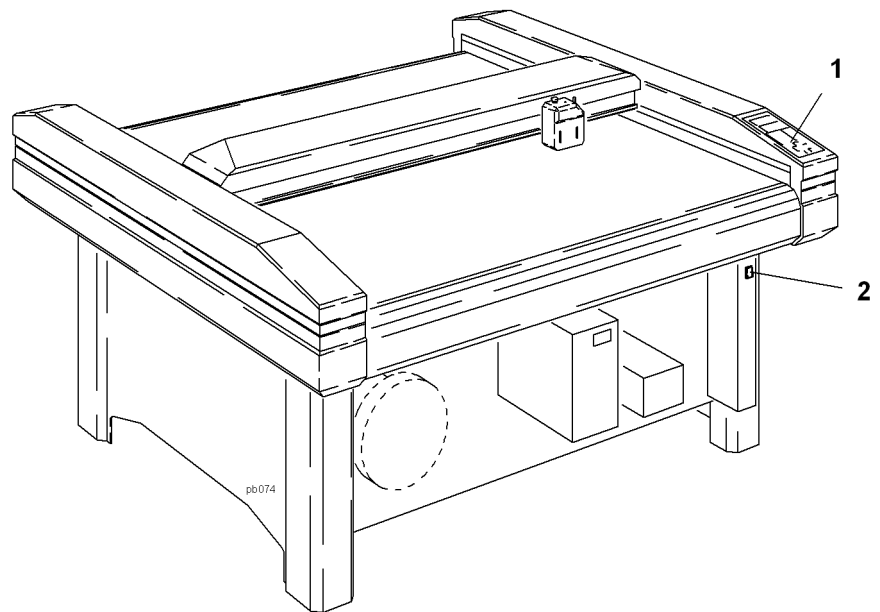

Fig. 4-1 Controls
The control panel (Fig. 4-1, item 1)
Use the On/Off switch to switch the entire cutter system on/off. (Fig. 4-1 item 2)